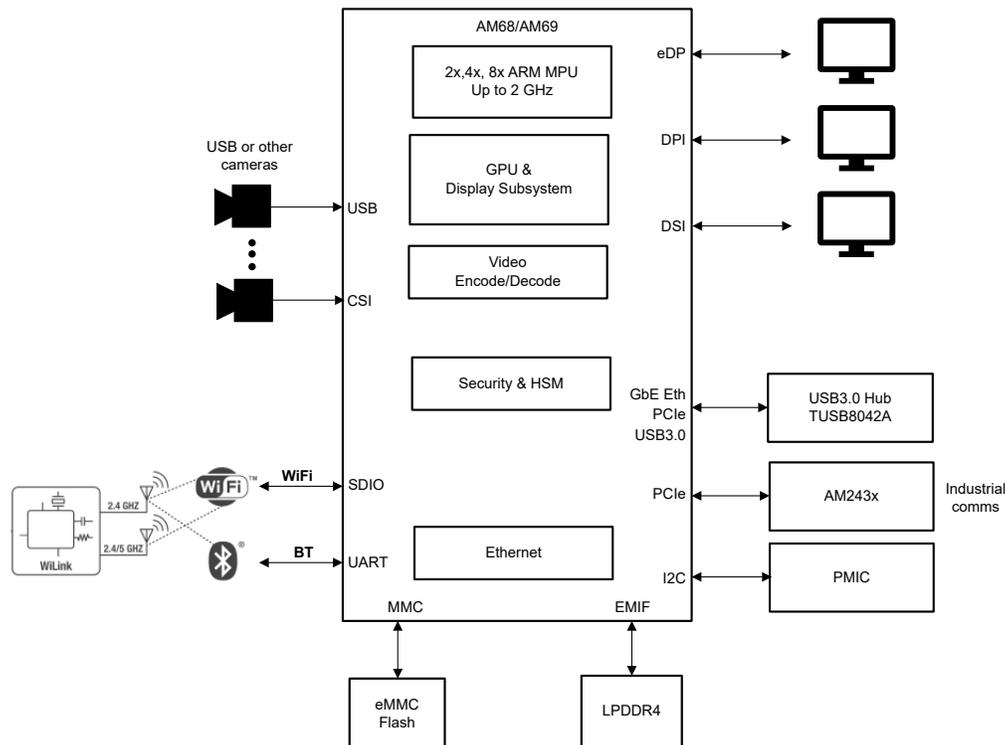

Figure 4-1. HMI Box Block Diagram on AM68/AM69
HMI typically incorporates a processor to run the Operating System (OS) and execute custom applications, a high-resolution display(s) or touch screen for input, a GPU to bring the graphics acceleration to life for the user, and high-speed interfaces such as USB, PCIe, and ethernet for connectivity to outside world. There are many different levels to HMI ranging from low end to high end that utilizes multi core processors to achieve high levels of compute. Nevertheless, the implementation remains consistent as seen in Figure 4-1 showing a block diagram of a typical HMI.
The AM6x processors, such as the AM68 or AM69 devices, are ideally suited for HMI applications, spanning the mid to high end of the spectrum, effectively ushering customers into their next generation of requirements. Figure 4-1 portrays a typical block diagram for an HMI using AM68 or AM69 devices. The flexibility of this application allows for scalability based on the specific AM6x family device in use.
Figure 4-1 shows the typical block diagram for an HMI using AM68 or AM69 devices. This application can be scaled up or scaled down based on which device from the AM6x family is being used. The processor would interface through PCIe or ethernet with an external module such as a PLC or other controller so that it can acquire the proper data to display to a screen. The data displayed could be a pressure gauge, a motor encoder showing RPMs, or status of a machine. From there, the operator is able to decide what is needed next: Should they utilize USB3 to upload a new test program or data? Should they employ PCIe Gen 3 to write a set of data to an SSD drive? Or should they simply push a button to send a new command back to the machine, acknowledging the status?